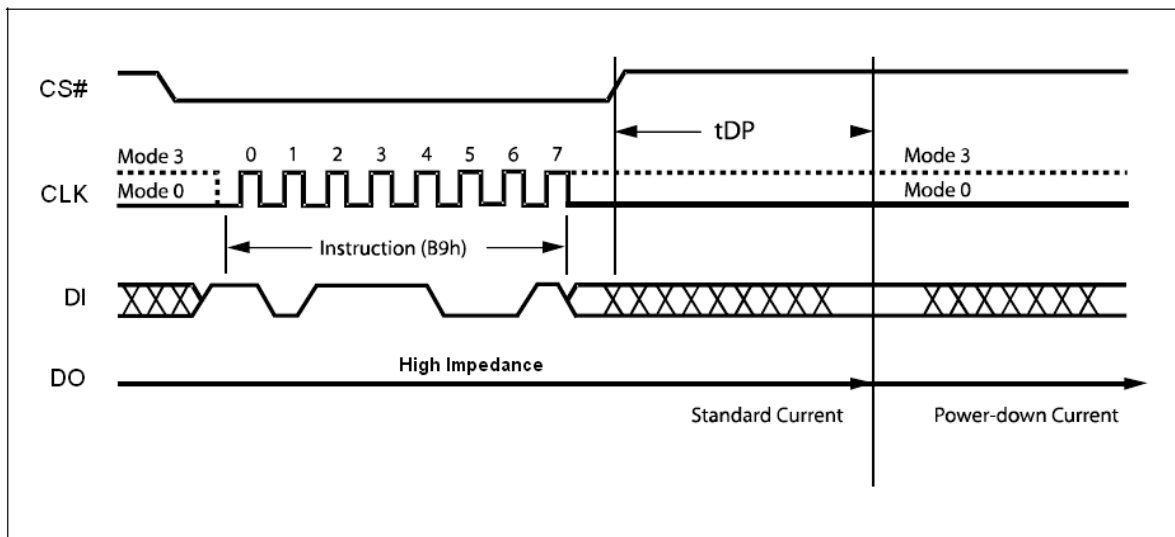

Figure 15. Deep Power-down Instruction Sequence Diagram
The instruction sequence is shown in Figure 15. Chip Select (CS#) must be driven High after the eighth bit of the instruction code has been latched in, otherwise the Deep Power-down (DP) instruction is not